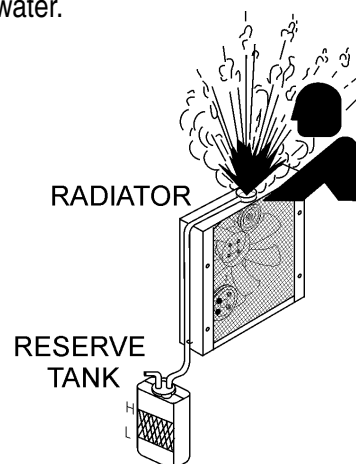

Figure 38. Radiator/Reserve Tank
2. Check coolant in the reserve tank daily (Figure 38). Make sure the level is between the FULL (H) and LOW (L) markings. Fill reserve tank with a mixture of 50/50 antifreeze/water.